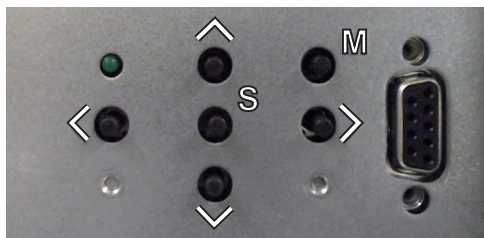

Fig. 4
- Connect the RF inputs (E) (input "A") and (F) (input "B") on the QAM module (fig. 4) to corresponding signal sources via the preinstalled F terminals in the rear wall of the head-end station through the cable inlets (H) using RF cables made on-site.
- After programming, connect the modulator output (G) to one of the input sockets (I) of a retrofitted output collector.